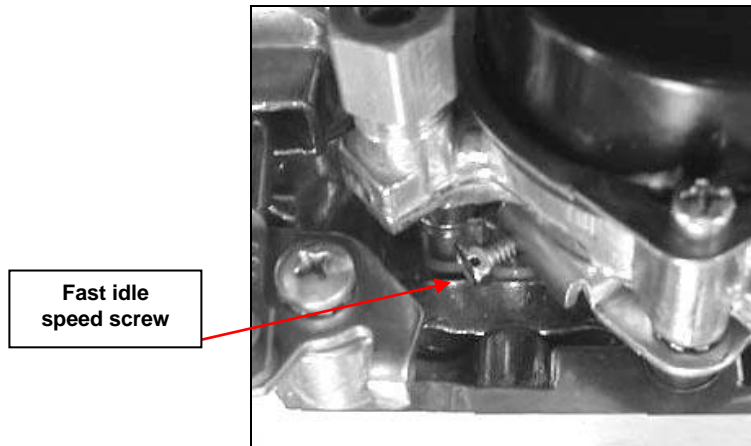

Figure 9
3. If the fast idle RPM is too low or too high for your preferences, TURN THE ENGINE OFF. Advance the throttle to wide-open, exposing the fast idle set screw below the choke housing (See Figure 9).